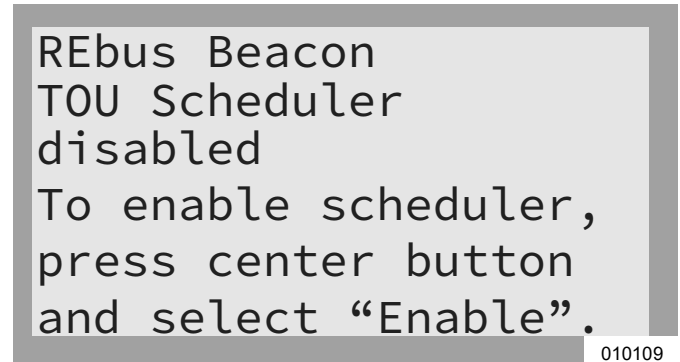

Figure 6-11. Configuring TOU Schedule (1 of 4)
- See Figure 6-11. Navigate to the Beacon device page and press the center button to enter the device menu.